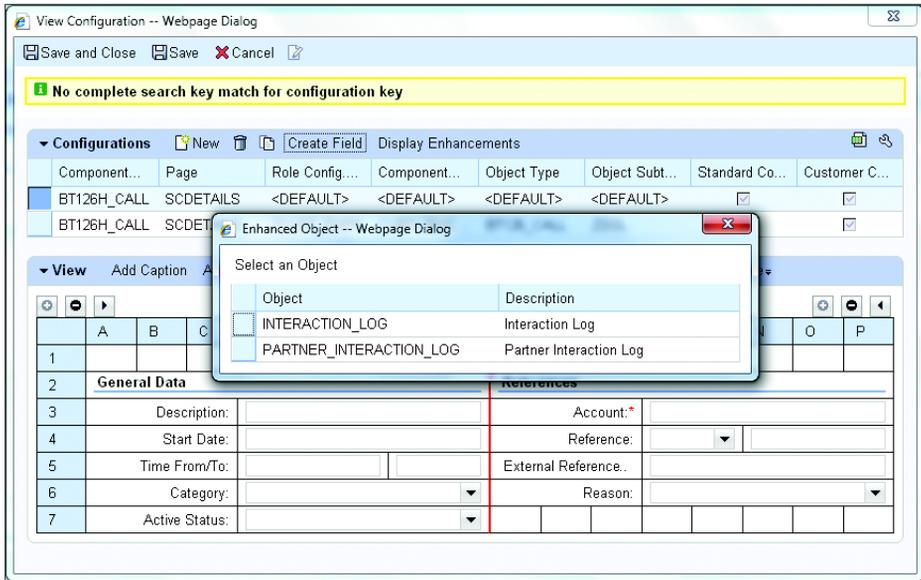

Figure 8.60 Object Selection
- As soon as you click the CREATE FIELD button, the pop up appears to select the object. Because we're adding the field to the activity, the object in the popup appears for INTERACTION LOG. Select INTERACTION_LOG in the OBJECT column (see Figure 8.60).